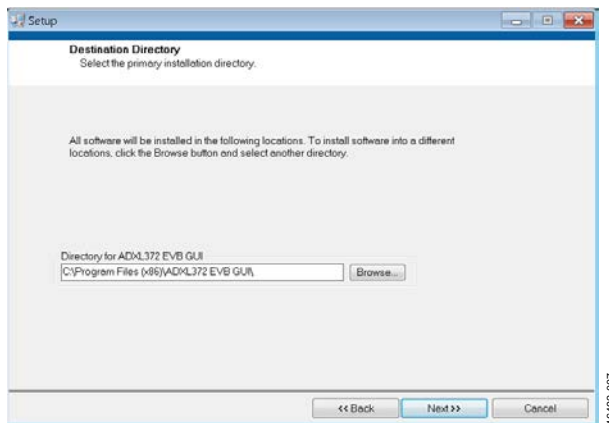

Figure 7. **ADXL372 Evaluation Board GUI Destination Director Selection**
1. Select the destination directory. The installer autopopulates the names of the directories in which to store the software GUI and required National Instruments products (see Figure 7). You can change these directories; however, most installations can proceed with the default values.